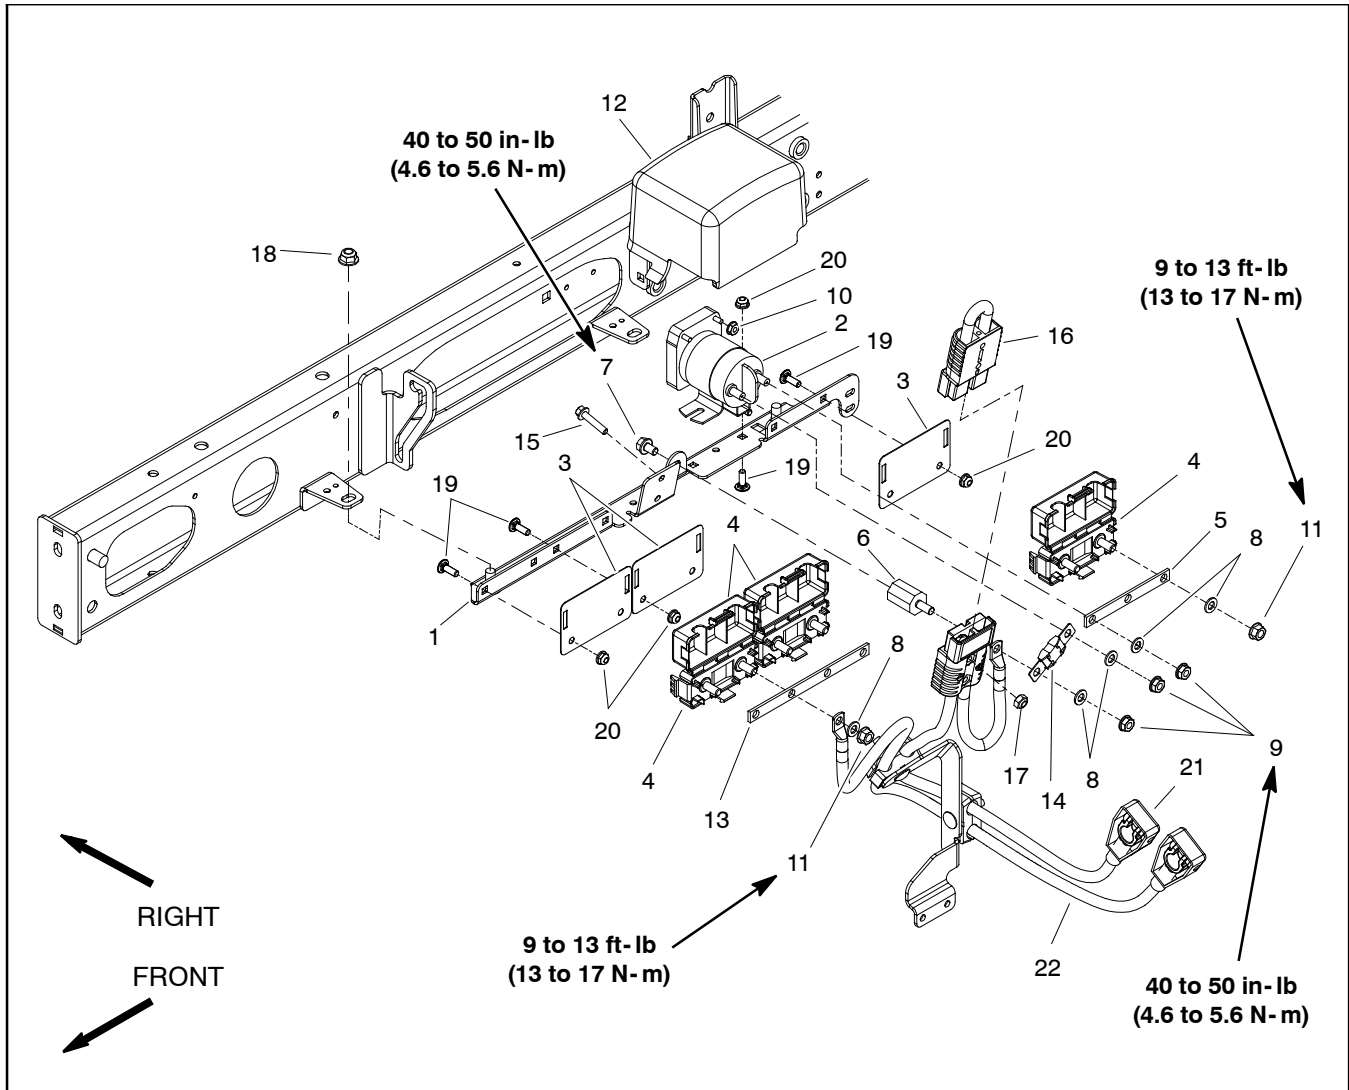

Figure 88
5. Disconnect electrical connections and remove components as needed using Figures 88, 89 and 90 as guides.
1. Install all removed components and electrical connections as needed using Figures 88, 89 and 90 as guides. Use torque specifications identified in Figure 88 when installing fasteners.